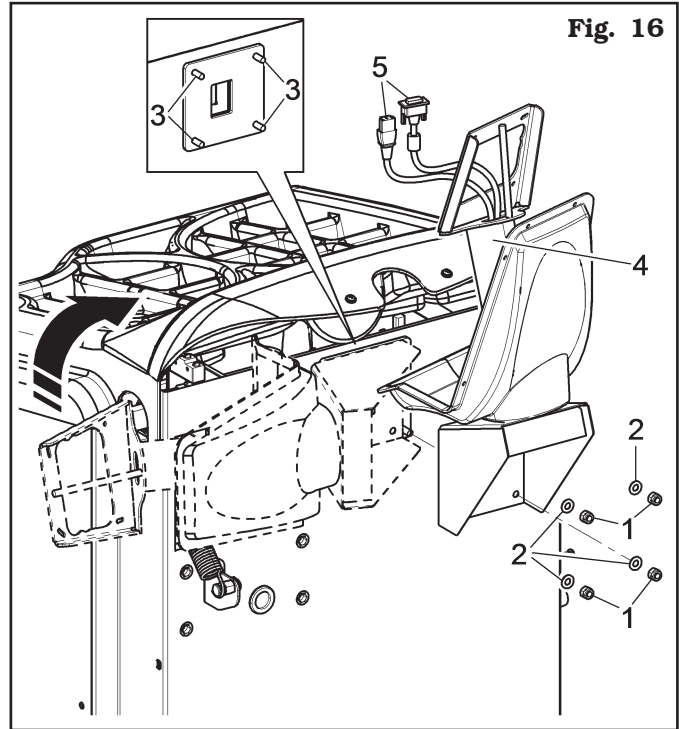

Fig. 16
1. Unscrew the nuts (**Fig. 16 ref. 1**) and the washers (**Fig. 16 ref. 2**) from the screws (**Fig. 16 ref. 3**). Fit the support tube (**Fig. 16 ref. 4**) rotated through 90°. Then screw the previously unscrewed nuts and washers again.
! DURING THIS OPERATION PAY PARTICULAR ATTENTION TO THE POWER SUPPLY/SIGNAL CABLES OF THE MONITOR (**FIG. 16 REF. 5**) IN ORDER NOT TO DAMAGE THEM.